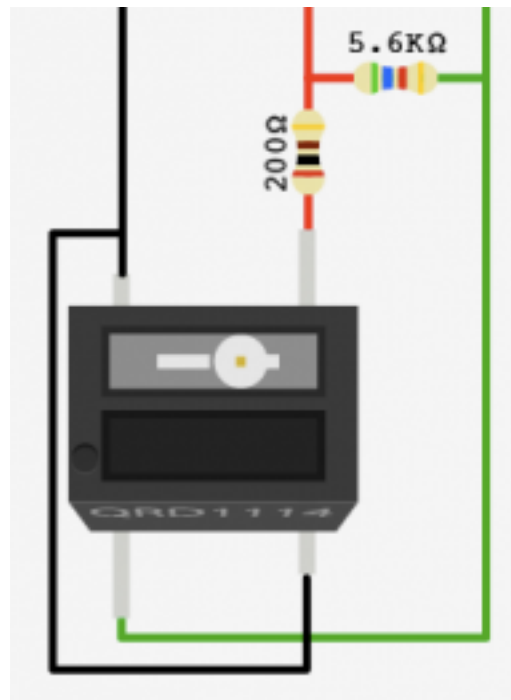

Figure 2. QRD1114 Reflective Sensor
- For the ball hopper, we wanted a sensor to detect when the feeder was in the correct position to dispense the ball. I acquired an infrared reflective sensor to detect the panel. The one I had acquired was already wired up, but incorrectly for an Arduino. It was created for a different controller. I replaced resistors to the system to make it operational for the Arduino. Wiring is shown in Figure 2.